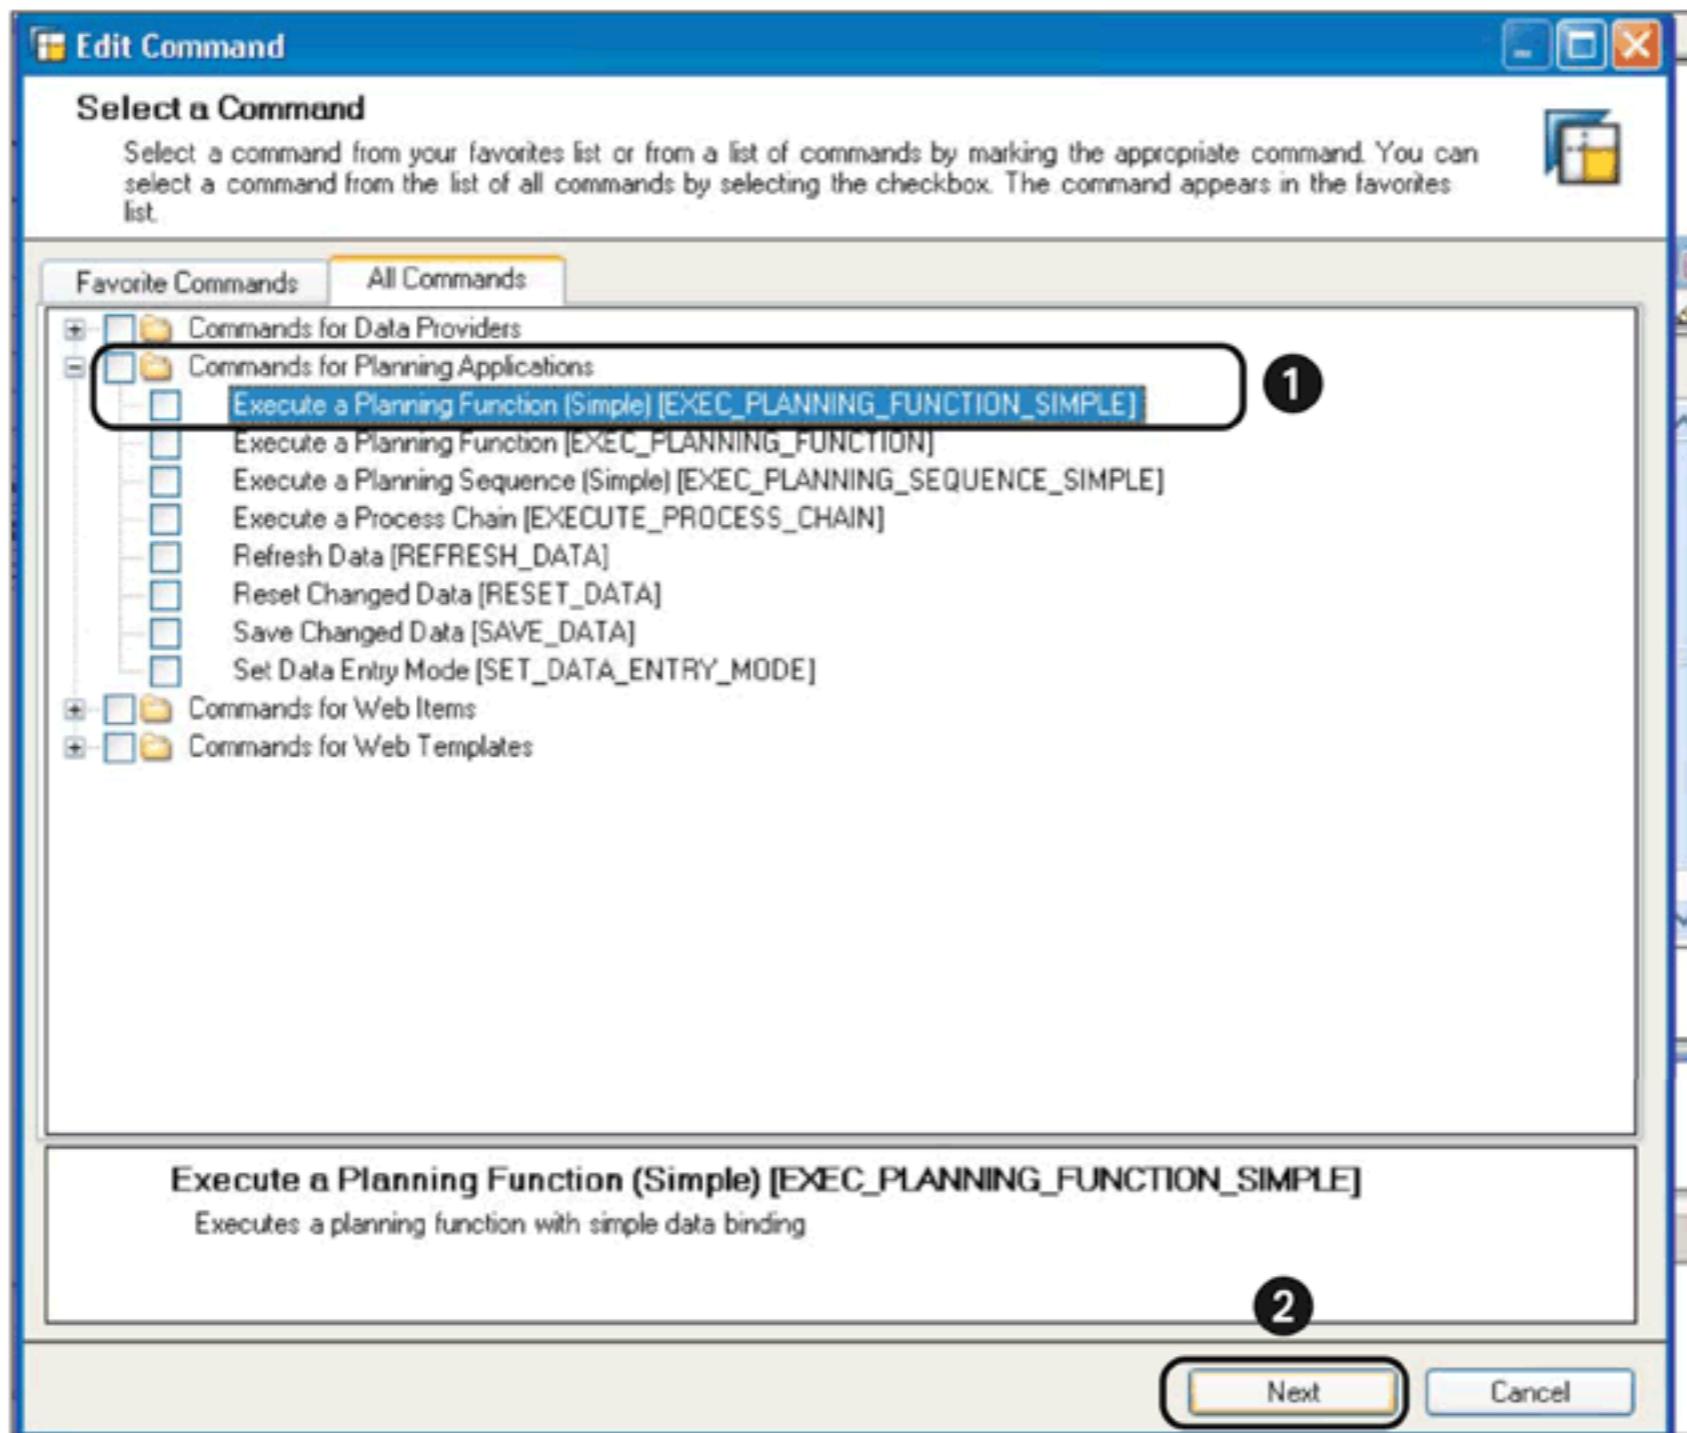

Figure 12.85 Select Command for Copy Button
Select the EXECUTE A PLANNING FUNCTION (SIMPLE) (EXEC_PLANNING_FUNCTION_SIMPLE) command (1 of Figure 12.85), and then click on the NEXT button (2).